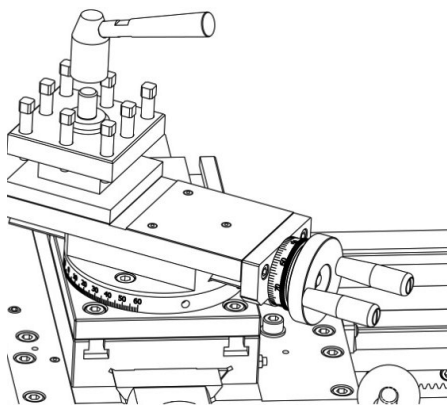

Figure 13 Removing tool post lock handle
1. Rotate the tool post lock handle counterclockwise to remove it as in Figure 13.
1. Loosen the compound bolts shown in Figure 13 to allow it to be rotated.